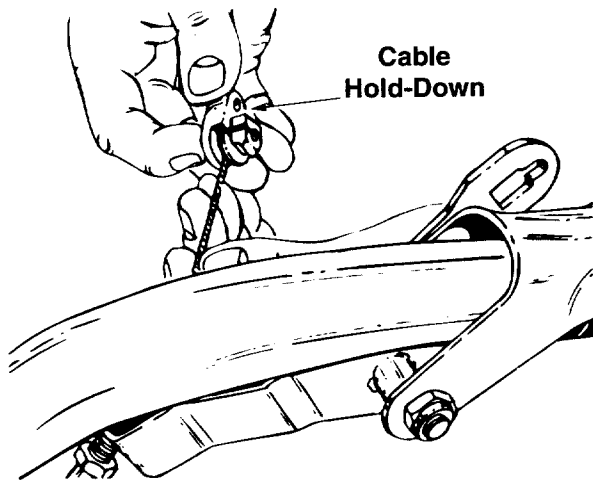

Figure 8
3. Hook the barrel end of the cable into the cable hold-down shipped in hardware pack. Slide the cable around in the slot as shown in Figure 8.